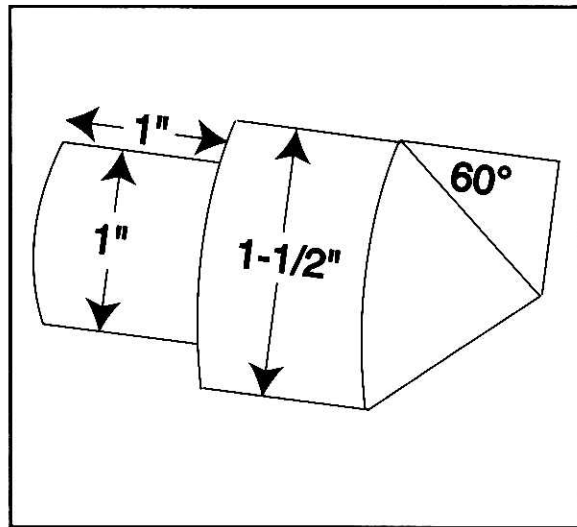

Figure 16
1. Using CRS stock, create a dead center by turning a shoulder to make a shank, as shown in Figure 16. Flip the piece over in the chuck and turn a 60° point, as shown. As long as it remains in the chuck, the point of your fabricated center will accurately mark your spindle's exact center. Keep in mind that the point will have to be re-turned whenever it is removed and returned to the chuck.